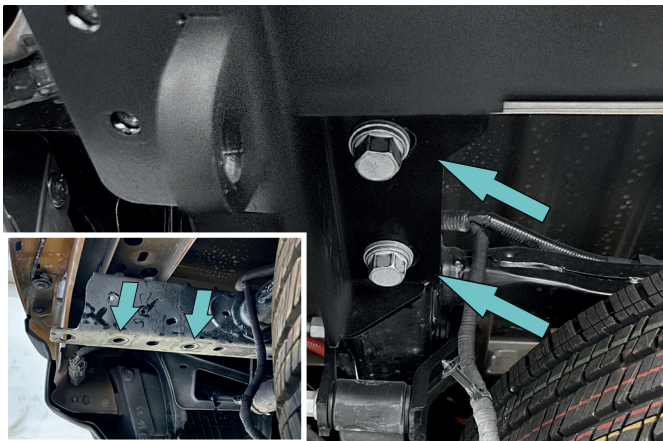

Fig. 15
15. Install bracket (item 2) on the vehicle, using OE bolts M14 as shown in fig.15. ***Do not tighten yet.**